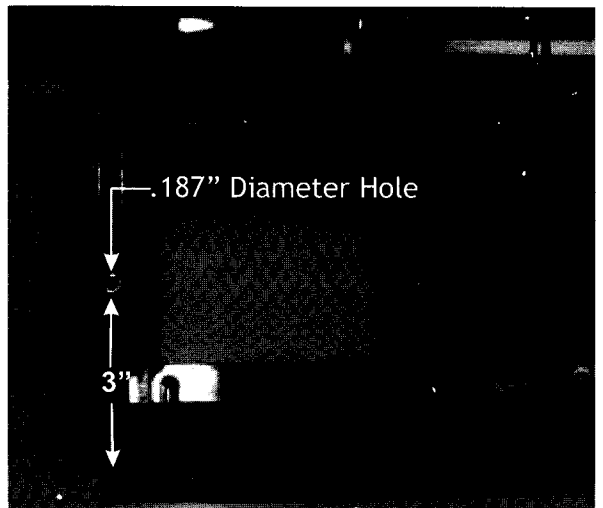

Figure 10
- 9. If there is no pre-drilled hole present, measure up three (3) inches and drill a .187" hole in the frame. See Figure 10.